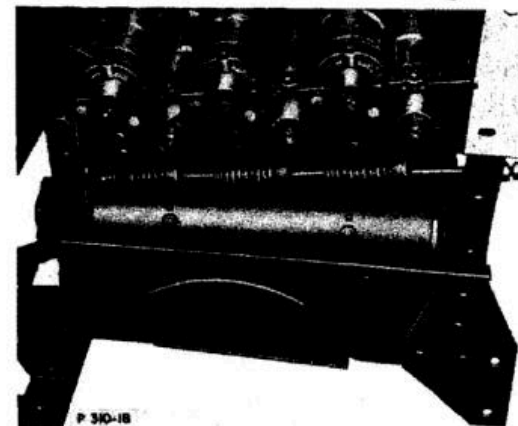

Figure 38
2. Remove bolts "T" (Fig. 38), cap "J", can then be removed.